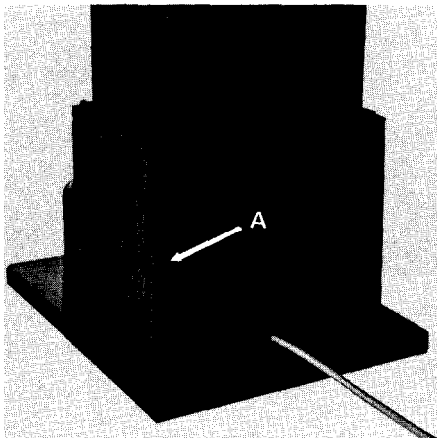

Fig. 13
Remove front outer shroud by removing (6) small screws, (Item A, Fig. 13).